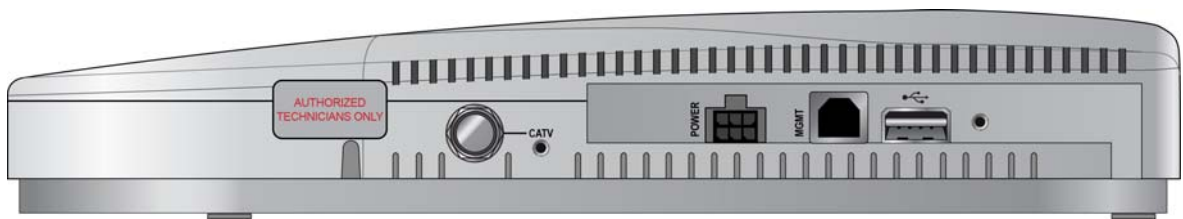

Figure 13: Unit with the tamper-evident label in place.
13. If desired, seal the unit with the tamper-evident label included in the box with the unit. Adhere the label across the seam in the plastic chassis as shown in Figure 13.